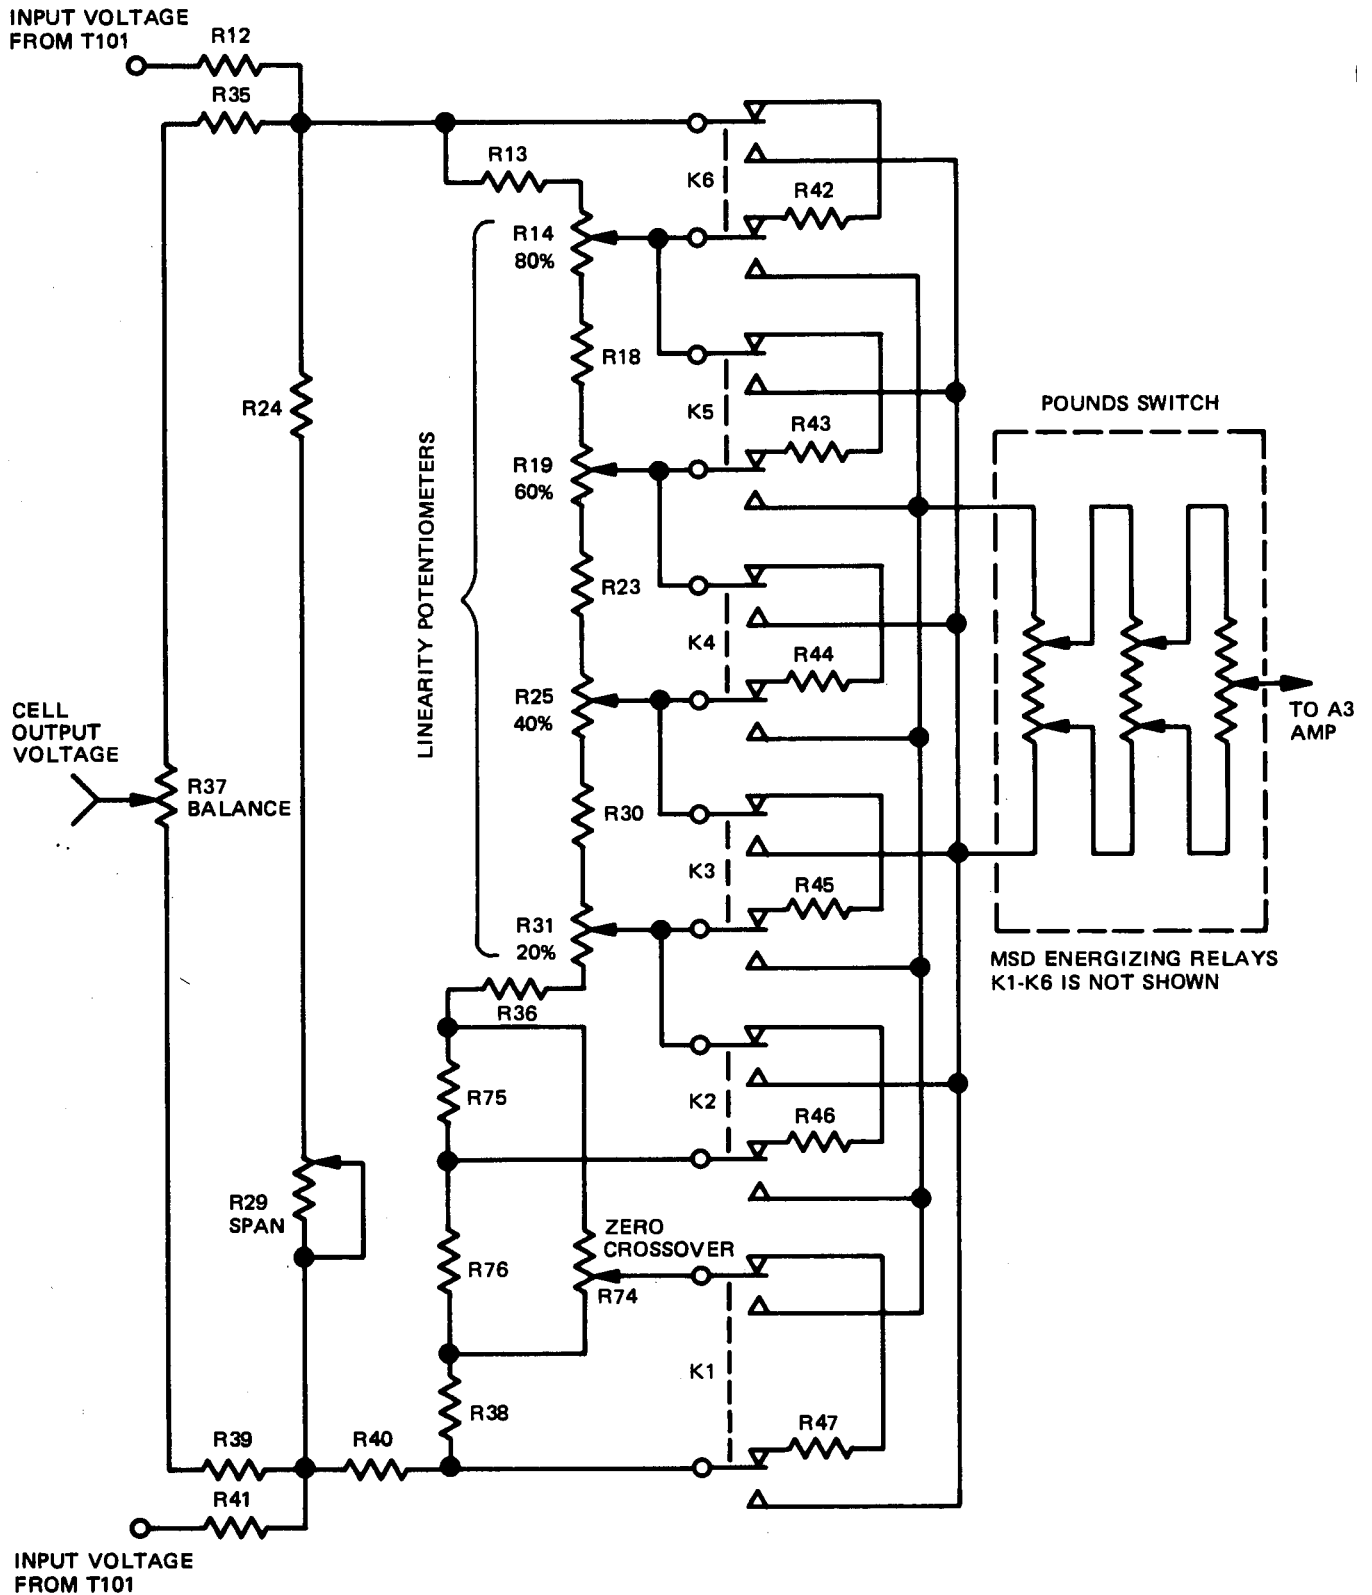

Figure 1-1. Pounds Selector Circuitry
- (3) The balance potentiometer R37 is provided to adjust the measuring bridge output voltage. It is adjusted for zero output with the POUNDS switch set at 0-0-0-00, the zero set controls (R101, R102, and R103) set at exactly five turns from extreme counterclockwise, and the load cells producing zero output. Adjusting R37 for a state of balance in the bridge also eliminates minor amplifier offsets and circuit phase shifts. A state of balance in the bridge is indicated by null meter M101 reading at center.
- (4) POUNDS switch (Figure 1-1)